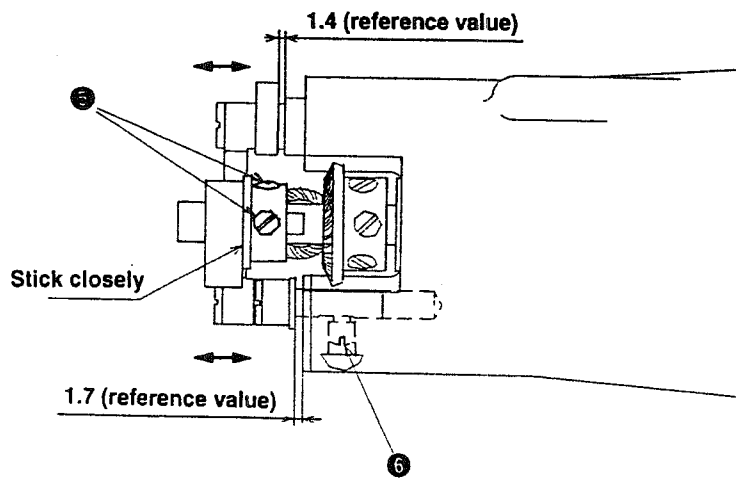

Fig. 8
<ol style="list-style-type: none"> 1. Set the feed dial to 0 mm. 2. Remove the throat plate and the throat plate base frame. 3. Loosen two setscrews ④ in the feed rocker shaft thrust collar. 4. Loosen setscrew ⑤ in the feed rocker shaft crank. 5. Loosen setscrew ⑥ in the feed bar link shaft. 6. Loosen two setscrews ⑦ in the feed vertical cam. 7. Turn the handwheel to bring the needle bar in the lower dead point. 8. Finely move the feed rocker shaft and the feed bar link in the direction of arrow as shown in Fig. 8 to adjust the needle entry. 9. After the adjustment, securely tighten two setscrews ④ in the feed rocker shaft thrust collar, setscrew ⑤ in the feed rocker shaft crank, setscrew ⑥ in the feed bar link shaft and two setscrews ⑦ in the feed vertical cam. <p>(Caution) • When tightening two setscrews ⑦ in the feed vertical cam, tighten them after sticking the end face of the feed vertical cam to the end face of the feed bar crank.</p> <ul style="list-style-type: none"> • Tighten the setscrews so that there is no thrust play at the feed rocker shaft. 	<ul style="list-style-type: none"> • Stitch skipping and thread breakage will result. • Loose stitches will result. • Needle breakage will result.